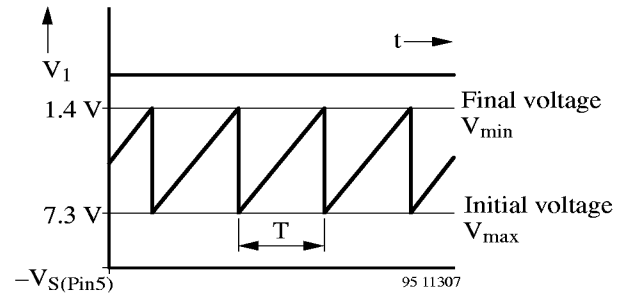

Figure 4.
**Firing Pulse Width  $t_p$ , (Figure 4)**